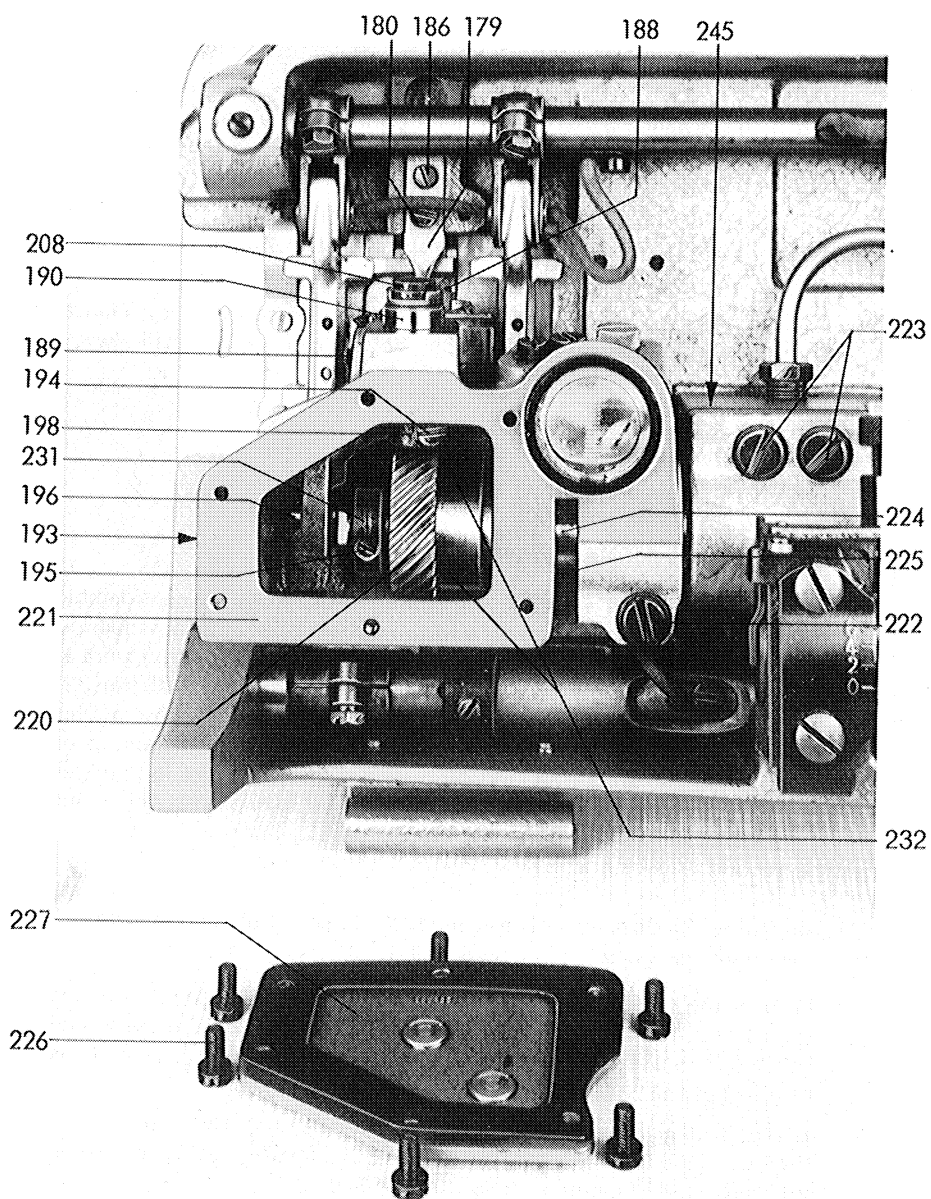

Fig. 28
1. Remove sewing foot, needle, throat plate slide, throat plate, feed dog, and bobbin case holder 179 (fig. 28). Loosen to this effect only the screw 180.
To adjust this distance, loosen the screw 180 (fig. 28) as required to shift bobbin case holder 179 on the shifting plate. Retighten fastening screws 180 and 186.
2. Loosen the thumb screw 194 (fig. 28) through the hole of screw 191 and the thumb screw 195 through the hole of the screw 192.
29. Changing the hook (fig. 28)
2. In addition to the thumb screw 222 (fig. 28), already loosened, loosen the thumb screws 223 and 232.
1. Remove the cover plate 227 after having removed the screws 226 (fig. 28) and clean the case from grease or oil.